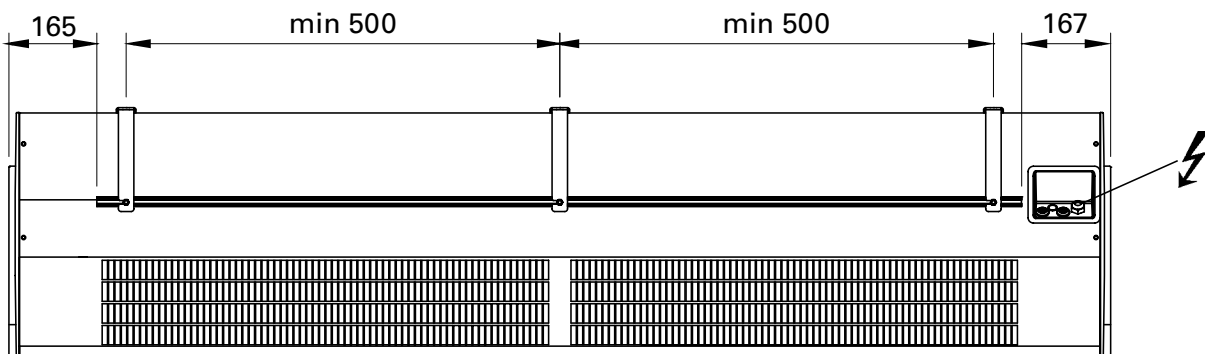

Fig. 1
1. Mount the brackets on the wall, see fig.4A and dimension drawing fig.1. If the wall is uneven the brackets must be compensated for this.